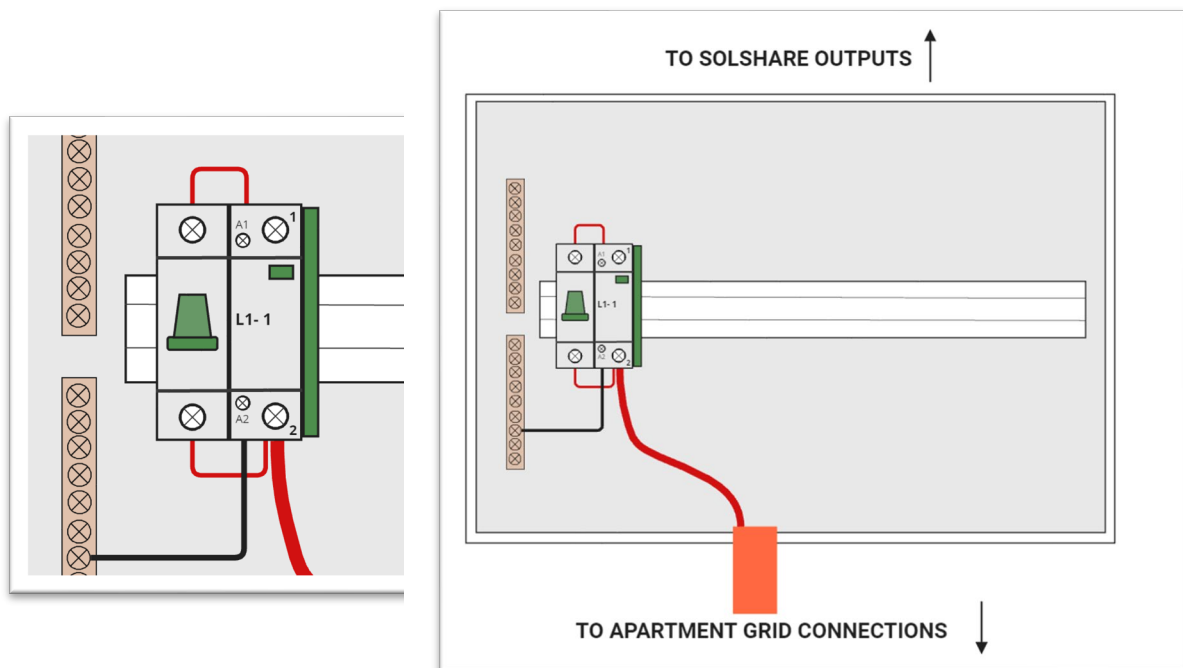

Figure 3. Contactor Coil Wiring
- Connect the contactor's control coil terminal, labelled A1, to the contactor's grid input terminal, labelled "2," by utilizing the 1A MCB provided as part of the installation kit, as shown in *Figure 3*.
- Connect the coil's (A2) neutral connection to the neutral bar in the isolation box using appropriately sized cables, as shown in *Figure 3*, and ensure the neutral bar in the enclosure is linked back to the main neutral bar at the MSB that has the MEN link.